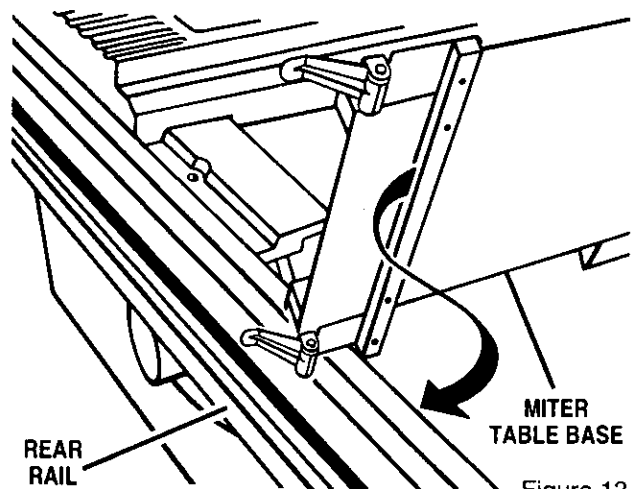

Figure 13
- Install the sliding miter table assembly over the front and rear rails. *See Figure 13.* Check that it slides easily on the rails. Push both front miter locking clamps down evenly on each side to secure. Repeat for both rear miter locking clamps. **Note:** Do not force miter locking clamps fully down. Tighten only to flat "seated" position.